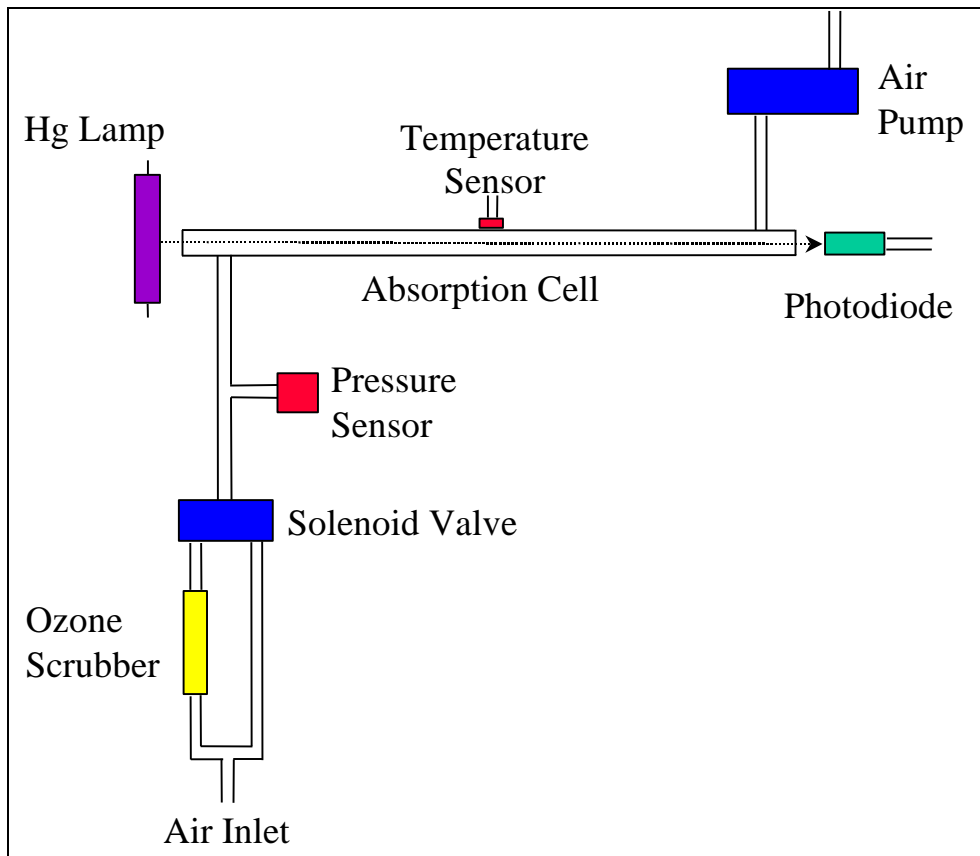

FIGURE 1-1. Schematic diagram of the ozone instrument.
Figure 1-1 is a schematic diagram of the ozone monitor. Ozone is measured based on the attenuation of light passing through a 15-cm long absorption cell fitted with quartz windows. A low-pressure mercury lamp is located on one side of the absorption cell, and a photodiode is located on the opposite side of the absorption cell. The photodiode has a built-in interference filter centered on 254 nm, the principal wavelength of light emitted by the mercury lamp. An air pump draws sample air into the instrument at a flow rate of approximately 1 L/min. A solenoid valve switches so as to alternately send this air directly into the absorption cell or through an ozone scrubber and then into the absorption cell. The intensity of light at the photodiode is measured in air that has passed through the ozone scrubber (I_o) and air that has not passed through the scrubber (I). Ozone concentration is calculated from the measurements of I_o and I according to the Beer-Lambert Law:
Not shown on Figure 1-1 is the DewLine™, which serves to make the humidity entering the detection cell identical during I and I_o measurements. Please see our website for a technical discussion of the DewLine™ and its importance to ozone measurements: www.twobtech.com/dewline.htm. Briefly, water vapor adsorbed to the inner wall of the detection cell changes the reflectivity of the cell. If humidity is not the same during I and I_o measurements, an offset in the ozone measurement will occur and can be up to several tens of ppb for sudden changes in ambient humidity. The offset will change with time as the internal ozone scrubber equilibrates with water vapor. Even for fixed-site ozone monitors, an offset measurement error will occur if the instrument is zeroed with dry tank air and then used to measure ozone in humid air. The DewLine™ solution to this often-ignored problem is unique to 2B Tech instruments.